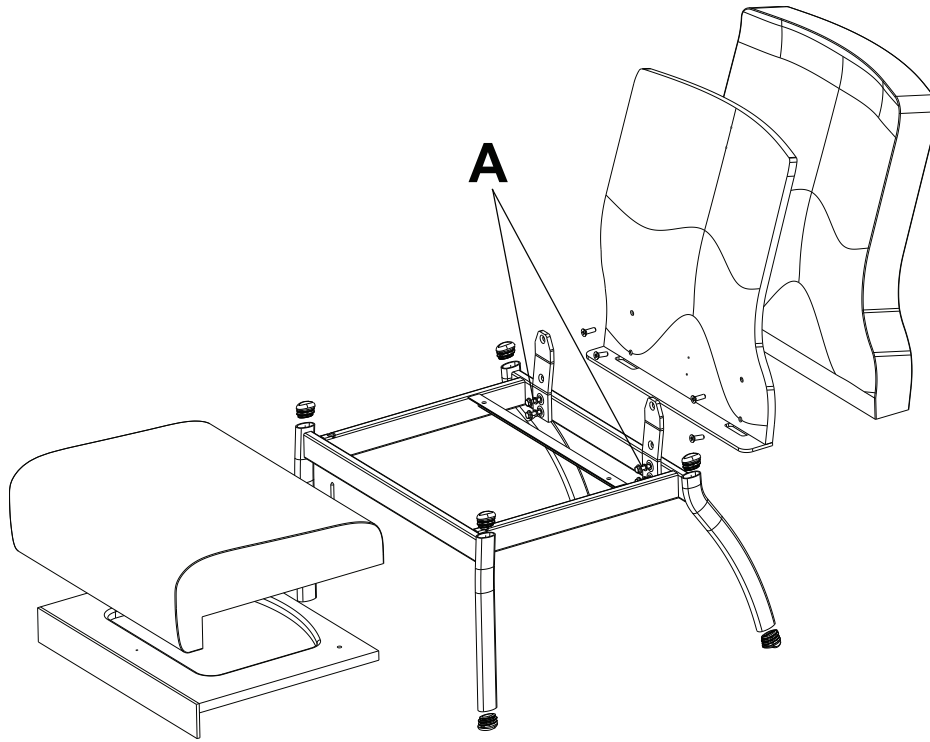

Figure 4 – Back cushion replacement
3. Using an 11mm combination wrench, remove the four bolts and washers (A) that secure the back cushion to the frame (Figure 4). Remove and discard the back cushion. Save the bolts and washers.